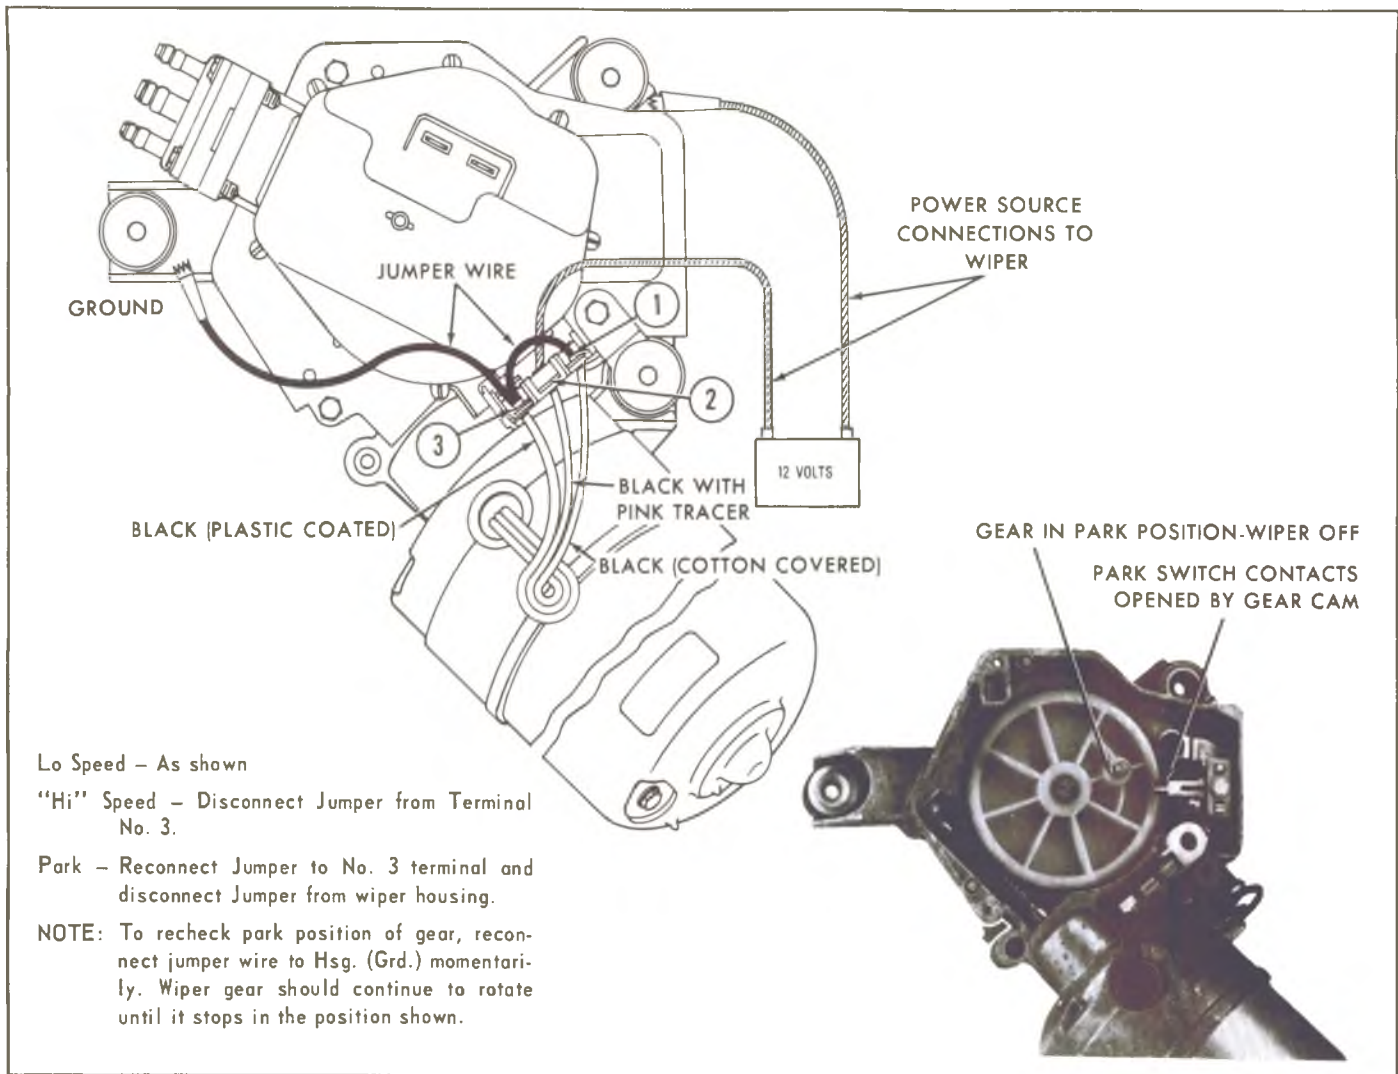

Fig. 36--Wiper Motor Diagnosis Diagram
5. With ignition switch "ON", there should be 12 volts at center terminal (No. 2) of wiper connector body. Refer to Figure 36 for #2 terminal location.
- B. To determine if wiper is cause of trouble, disconnect existing harness from wiper and connect jumper leads to wiper terminals as shown in Figure 36. Try operating wiper in LO and HI speeds. Also check if wiper will shut off properly (blades in park position).
Jumper wires to wiper as shown in Figure 36. Observe current draw, determine type of trouble that exists and refer to the TROUBLE CHART - WIPER DETACHED.